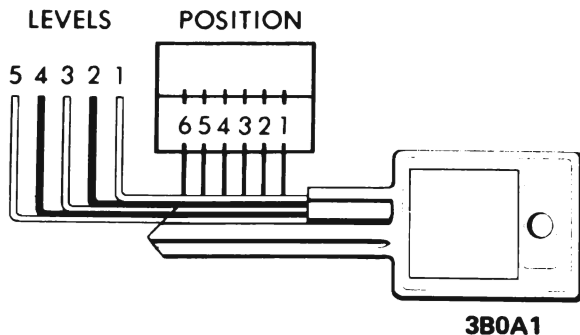

Figure OA-1 - Key Code Diagram
1. Lay the key on the Key Code Diagram, Figure OA-1, with the key outlined by the diagram as accurately as possible.